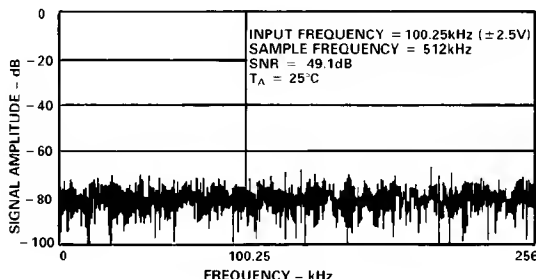

Figure 8. AD7821 FFT Plot
Figure 8 shows a 2048 point FFT plot of the AD 7821 with an input signal of 100.25 kHz. The SNR is 49.1 dB. It should be noted that the harmonics are taken into account when calculating the SNR. The theoretical relationship between SNR and resolution (N) is expressed by the following equation: